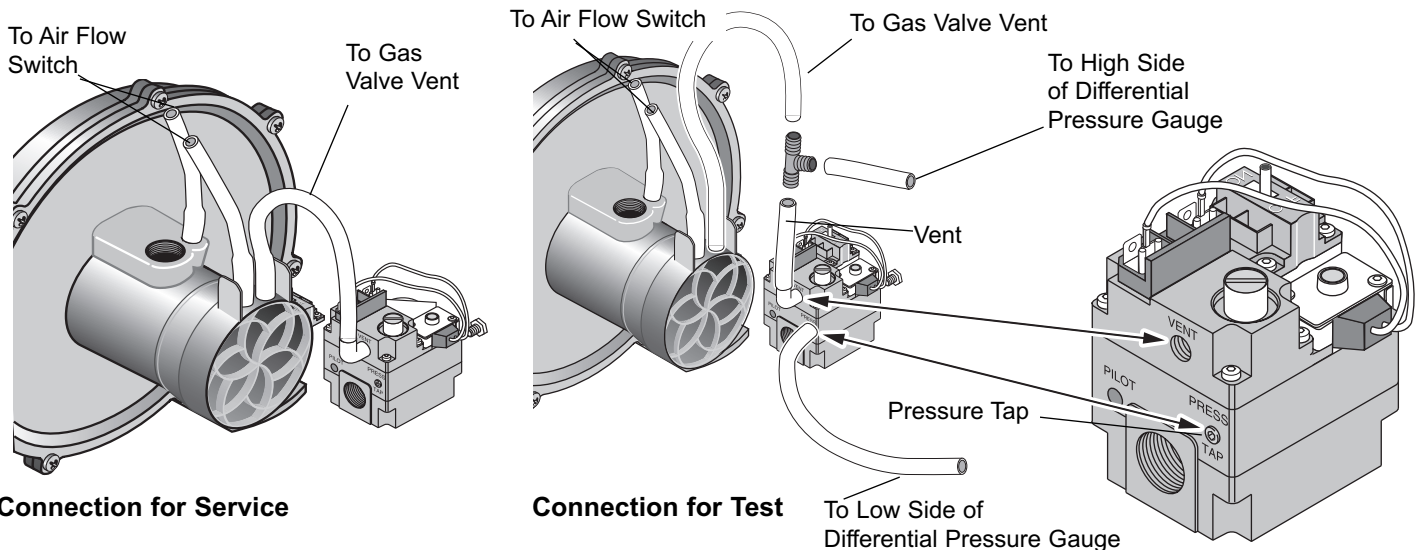

FIGURE 20: Connect Gas Valve to End Cap Air Orifice
The combination gas valve incorporates dual shut-off valves and a negative-pressure regulator. For proper operation, the regulated pressure at the outlet manifold of the valve must be 0.2 " (0.5cm) wc below the reference pressure at the blower mixer inlet, and the gas valve 'VENT' tap must be connected to the endcap air orifice as shown in Figure 20.
4. Disconnect the tube from the Gas Valve 'VENT' port. Connect it to a tube with a tee running to the high side of a differential pressure gauge and to the blower's air orifice grille (See Figure 20).